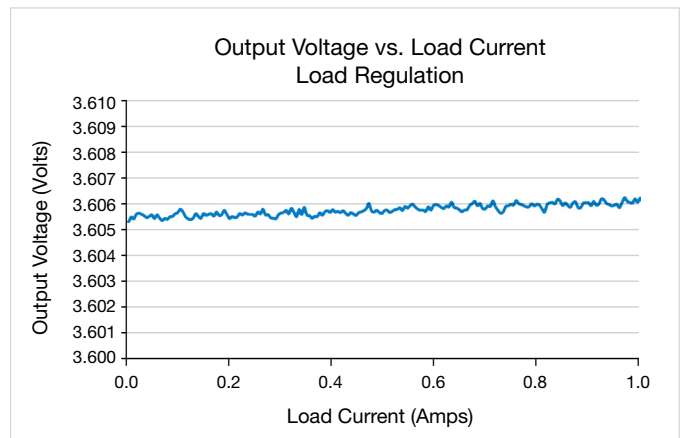

Figure 5. Plot of DC-DC converter load regulation using a two-channel 2612B SourceMeter SMU Instrument.
**Figure 5** shows the results of a typical load regulation test. In this particular example, the DC-DC converter was configured to output a constant 3.6V. SMU CH1 was set to bias 5V (nominal value) to the voltage input terminal. SMU CH2 was configured to sweep a load current from 0 to -1A and measure the resulting output voltage. These measurements were taken under the control of the embedded TSP® Express software, which enables quick and easy I-V testing. Users can easily calculate the load regulation percentage from the I-V data.